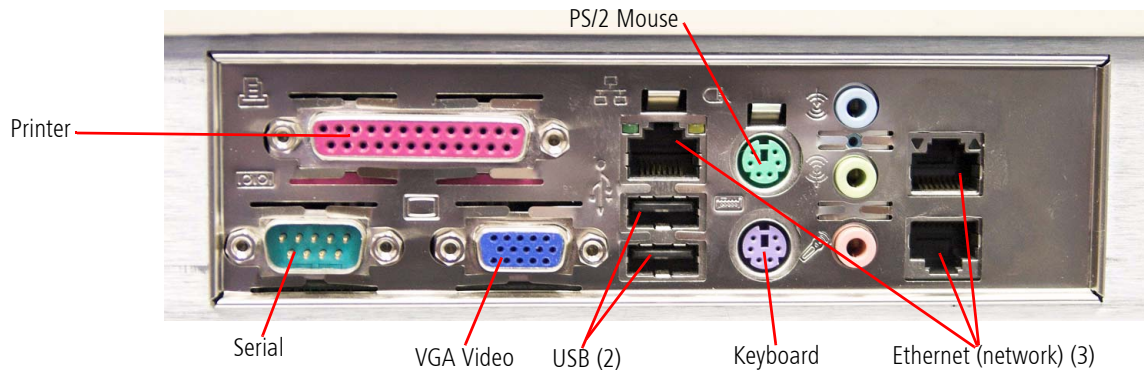

Figure 1-4 Side Connectors
11. Plug in the keyboard cable into the instrument's purple keyboard port (see Figure 1-4).